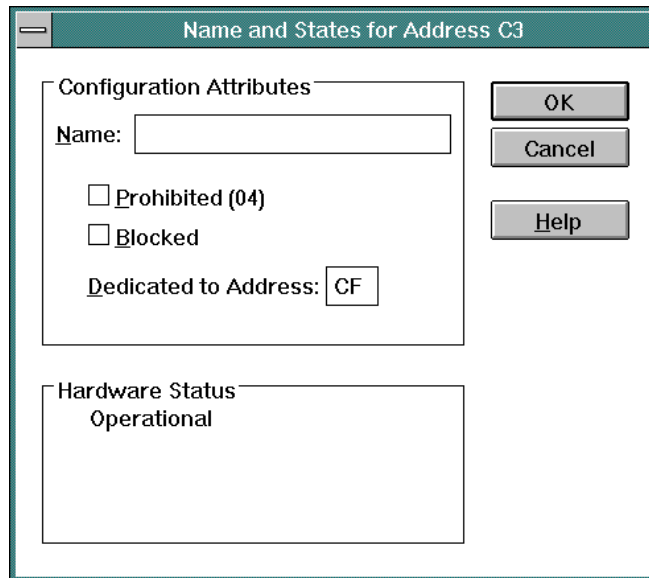

Figure 140. *Name and States* Dialog Box
- Set the attribute from the *Name and States* dialog box (Figure 140). Open the dialog box by selecting the *Name and States* option from the *Edit* menu, or by moving the cursor to the *Con* column (for port address **C3**) and double-clicking the mouse. Enter port address **CF** in the *Dedicated to Address* field and click the *OK* button.
- Set the attribute from the *Name and States* dialog box (Figure 140). Open the dialog box by selecting the *Name and States* option from the *Edit* menu or double-clicking the mouse. Enter port address **C6** in the *Blocked* field and click the *OK* button.